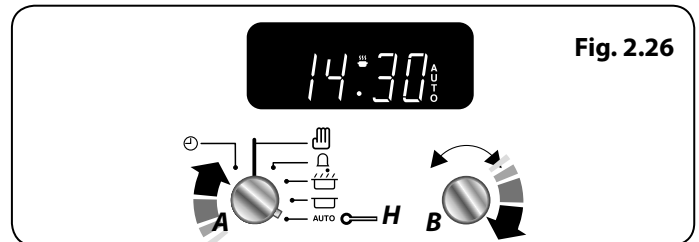

Fig. 2.26
3. Continue to turn the **Adjusting (B)** knob to the amount of time required e.g. 1 minute (**Fig. 2.26**).
5. Turn the **Timer (A)** knob to the **Auto (H)** setting (**Fig. 2.26**). If the display shows the current time and the word **'AUTO'** the Multifunction Oven is set to turn on and off.